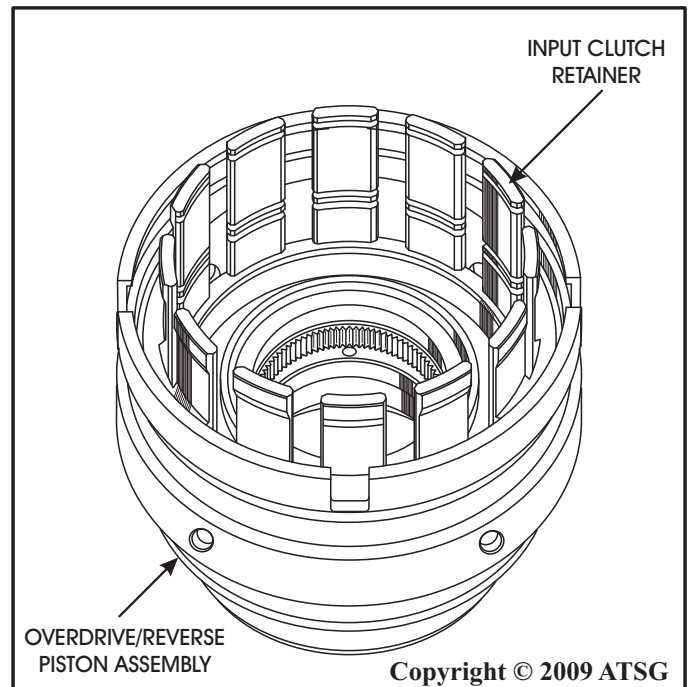

Figure 75
14. Install the input clutch retainer into overdrive/reverse piston by rotating into position, as shown in Figure 75.